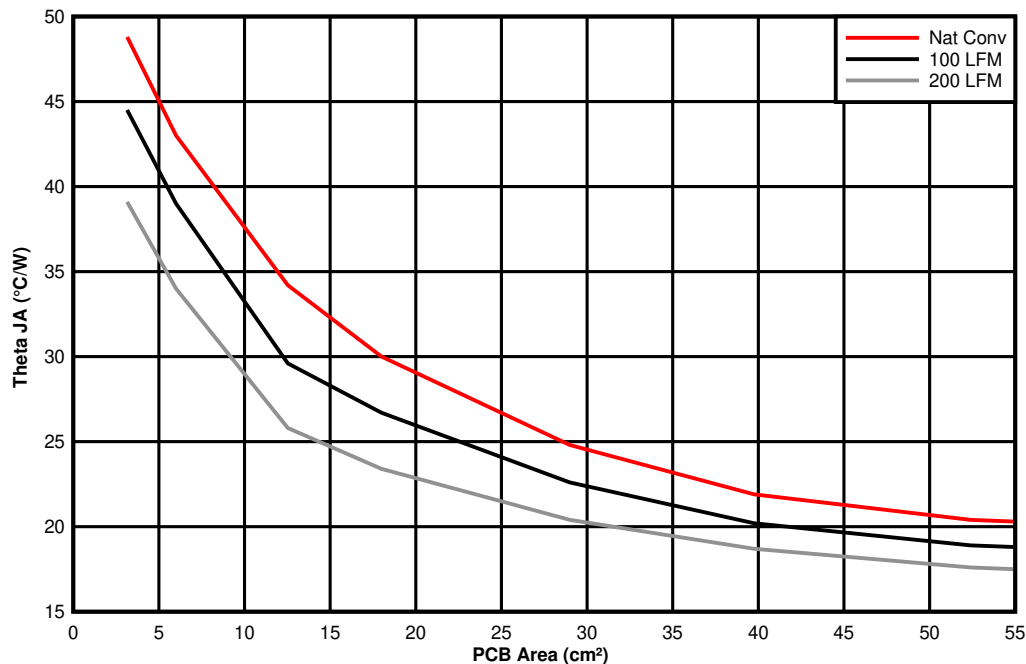

Figure 10-5. θ_{JA} vs PCB Area
The amount of PCB copper as well as airflow effects the thermal performance of the device. Figure 10-5 shows the effects of copper area and airflow on the junction-to-ambient thermal resistance ($R_{\theta JA}$) of the TPSM560R6. The junction-to-ambient thermal resistance versus PCB area is plotted for a 4-layer PCB.
3. Reference Figure 10-5 to determine the minimum required PCB area for the application conditions.